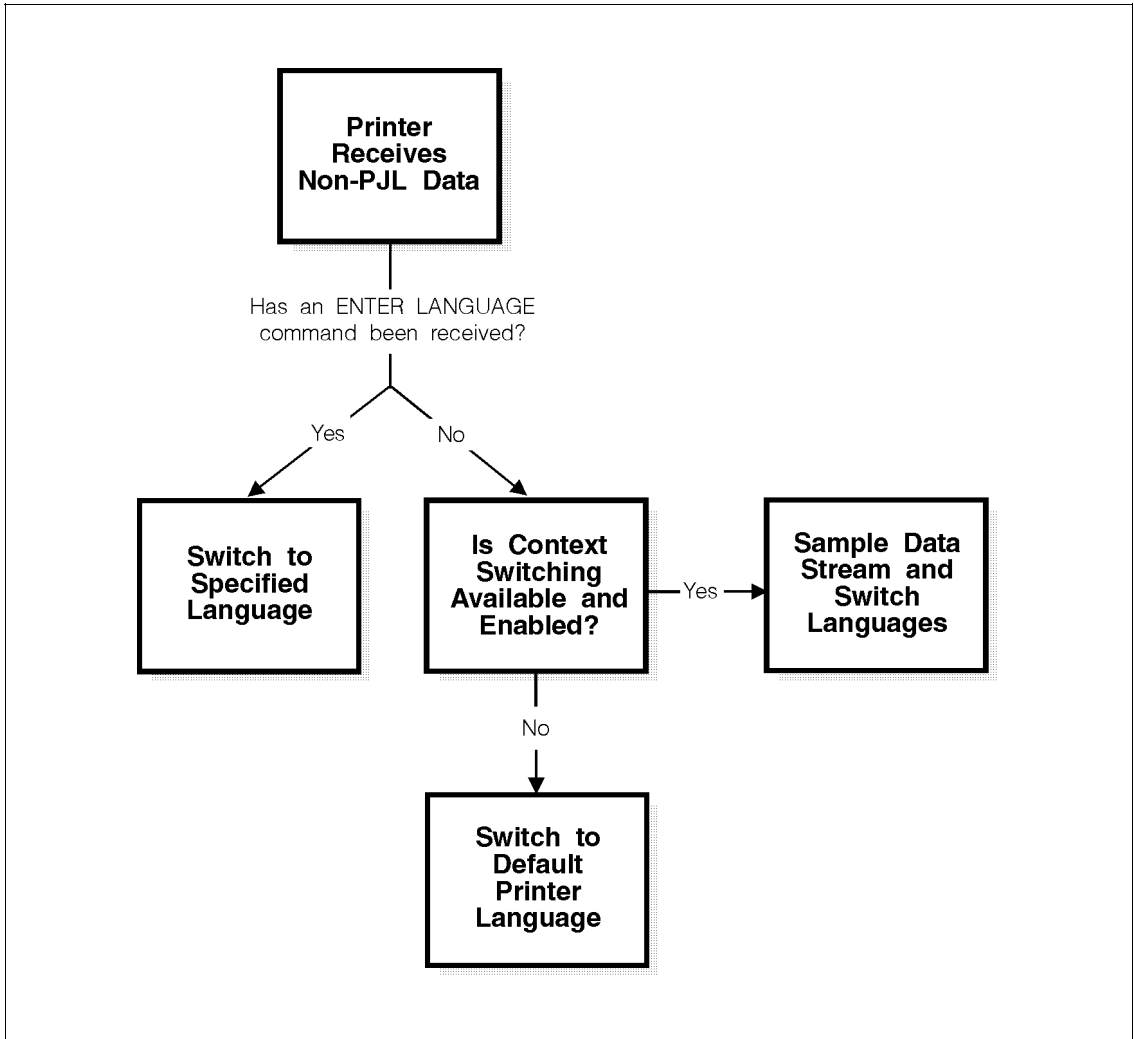

Figure 4-1. Switching Printer Languages
- **Explicit Switching**—with explicit switching, the PJI ENTER LANGUAGE command is used to “explicitly” select the desired printer language. This is the preferred switching method because it ensures that the specified printer language always is selected (see Figure 4-1).